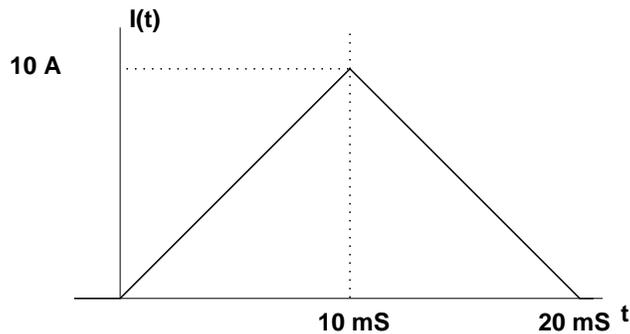

Figure 3: Coil current
1. Find the magnetic field along the axis of the cylinder if the coil is driven by a steady (DC) current I_0 . (Ignore any transients)
3. To give this one some numbers, assume that coil has 1,000 turns, the cylinder radius is $R_c = 10$ cm, the coil outer radius is $R = 20$ cm and the height is $h = 10$ cm. Assume, for the sake of nice numbers, that the cylinder thickness is 1 mm and its conductivity is 6×10^7 S/m. The coil is driven by current as shown in Figure 3. Find the magnetic field inside the cylinder.